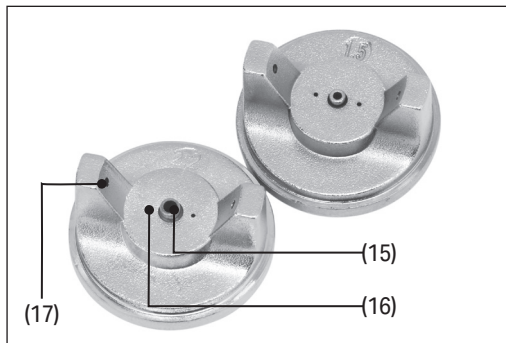

Fig. 12
The air cap (1) has three types of opening that affect the pattern of the fluid spray (Fig. 12):
- A hole for the nozzle head from which the fluid is dispersed (15).
- Atomising air holes (16) that break the fluid into a fine spray.
- Air horn holes (17) that shape the spray pattern as required.